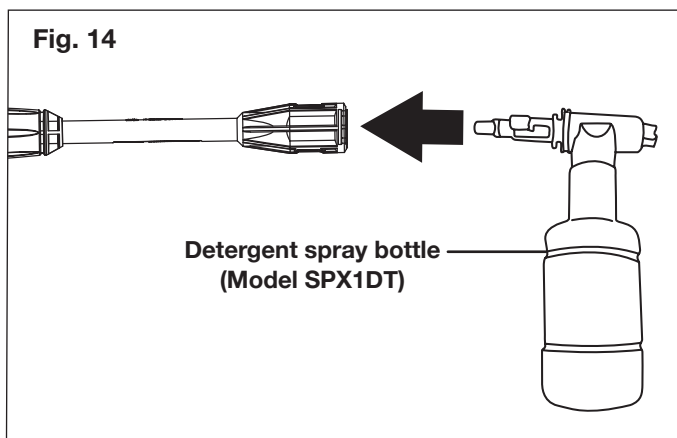

Fig. 14
2. Load the bottle with a suitable, non-corrosive detergent and attach it the spray gun (Fig. 14).